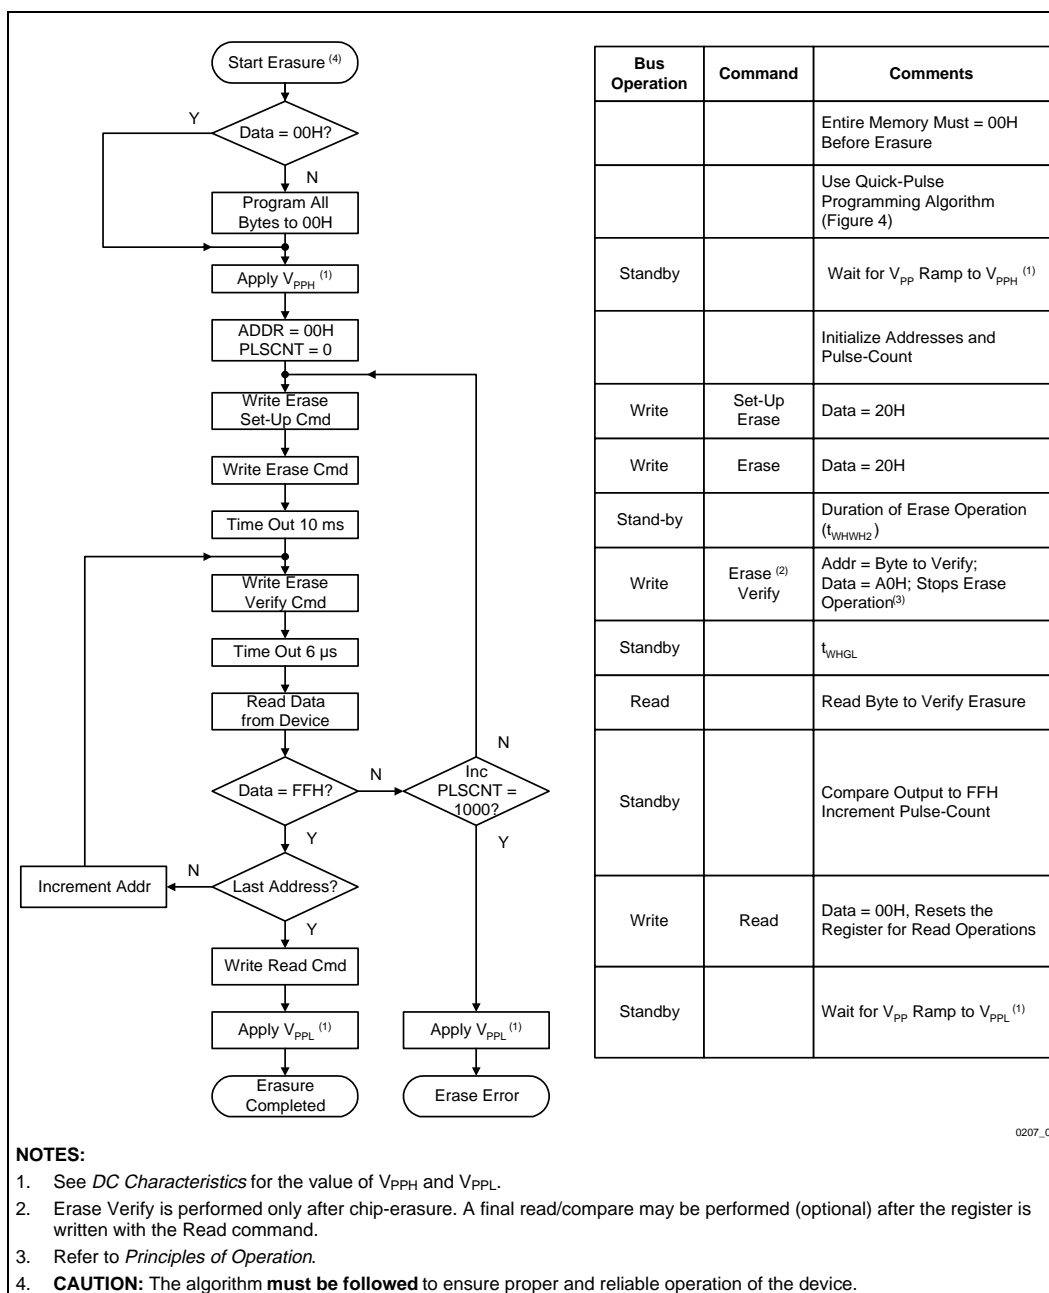

Figure 5. 28F010 Quick-Erase Algorithm
5. Figure 5 illustrates the *28F010 Quick-Erase Algorithm* flowchart.
point, the verify operation is terminated by writing a valid command (e.g., Program Set-Up) to the command register. Figure 5, the *28F010 Quick-Erase Algorithm* flowchart, illustrates how commands and bus operations are combined to perform electrical erasure of the 28F010. Refer to *AC Characteristics—Write/Erase/Program Only Operations* and waveforms for specific timing parameters.
The 28F010 applies an internally-generated margin voltage to the byte. A microprocessor read cycle outputs the data. A successful comparison between the programmed byte and true data means that the byte is successfully programmed. Programming then proceeds to the next desired byte location. Figure 5, the *28F010 Quick-Pulse Programming Algorithm* flowchart, illustrates how commands are combined with bus operations to perform byte
Erase execution then continues with an initial erase operation. Erase verification (data = FFH) begins at address 0000H and continues through the array to the last address, or until data other than FFH is encountered. With each erase operation, an increasing number of bytes verify to the erased state. Erase efficiency may be improved by storing the address of the last byte verified in a register. Following the next erase operation, verification starts at that stored address location. Erasure typically occurs in one second. Figure 5 illustrates the *28F010 Quick-Erase Algorithm* flowchart.